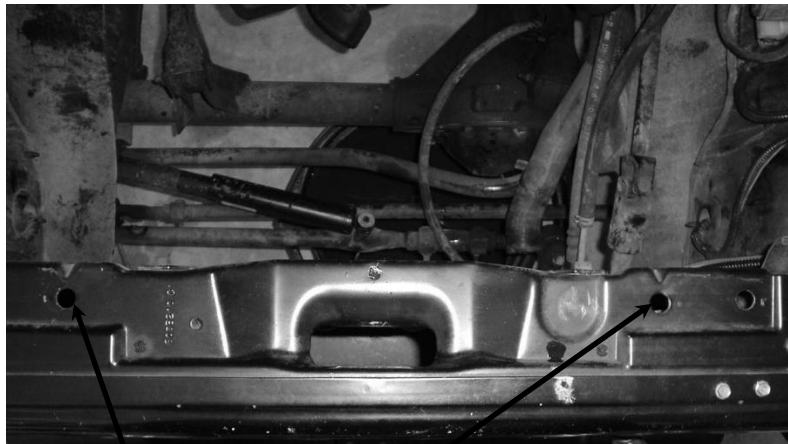

Figure 2.1
2. Remove the front bolt from the passenger side support bar in the engine bay. See fig. 2.1